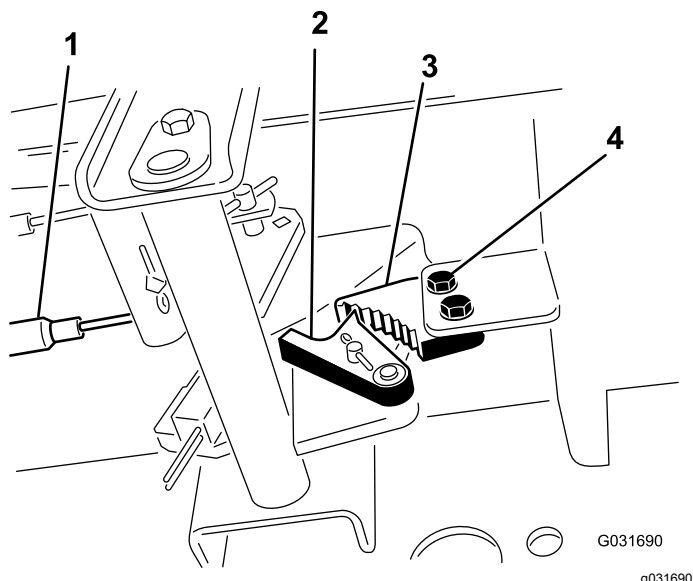

Figure 86
1. Loosen the 2 screws securing the parking brake pawl to the frame (Figure 86).
2. Press the parking brake pedal forward until the brake detent completely engages on the brake pawl (Figure 86).